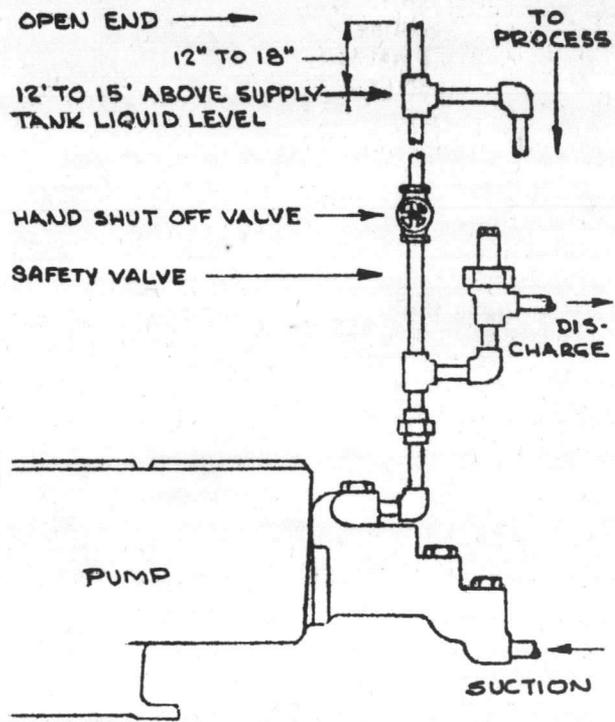

Figure 3. Vented Riser Installation
a. A vented riser (Figure 3), which prevents siphoning action, is simply a vertical extension of the discharge pipe into an open tee. The other side of the tee goes to the process. This device provides an artificial discharge head and is practically maintenance-free.